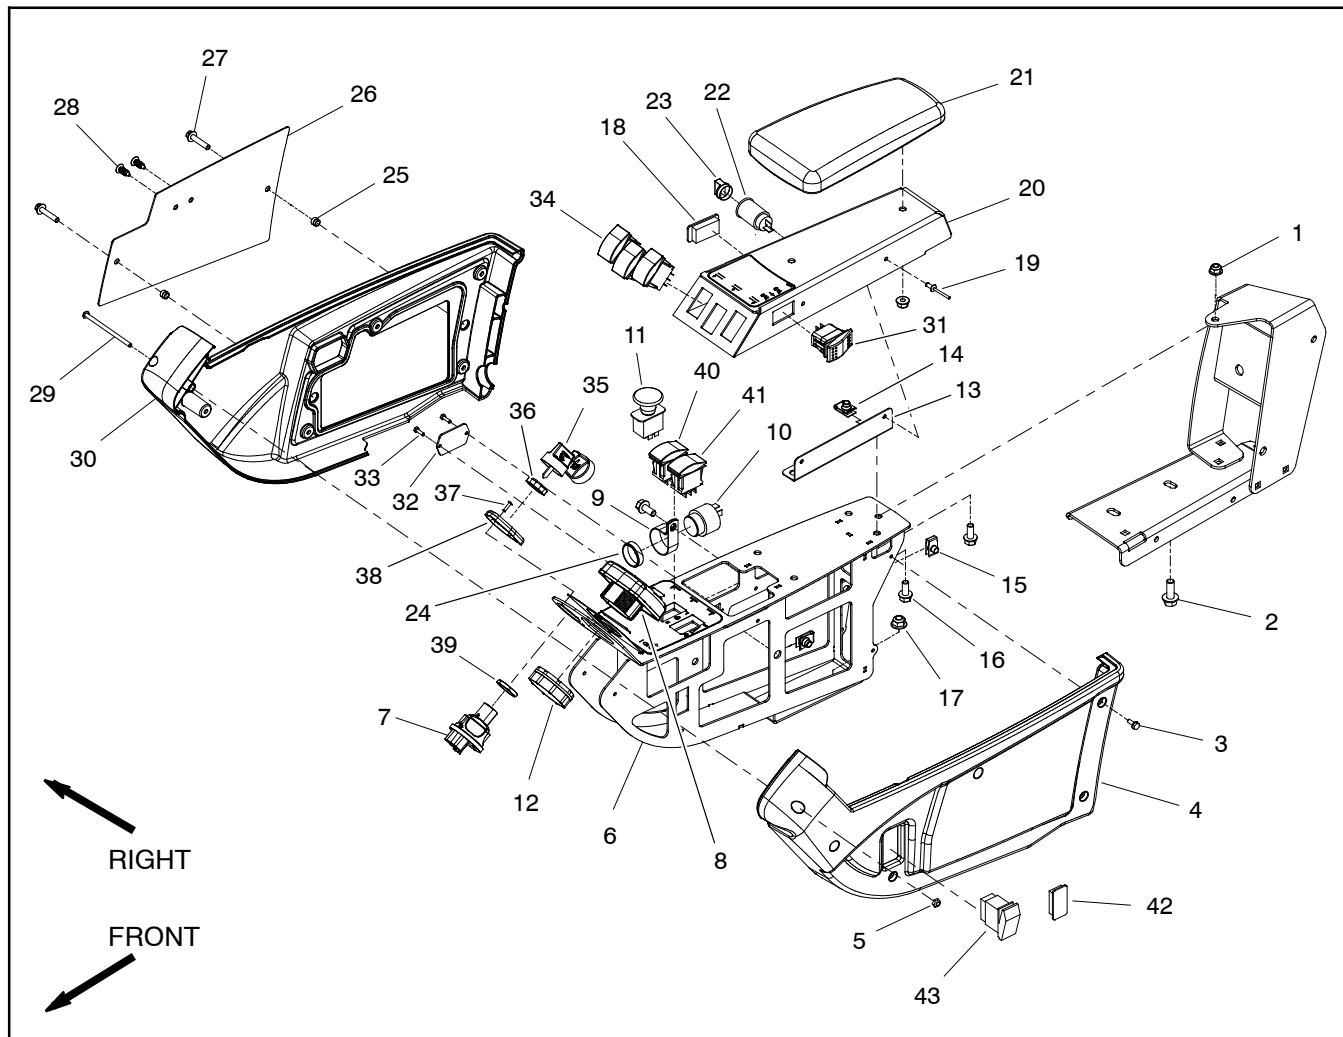

Figure 15
Disassembly (Fig. 15)
2. Remove two (2) flange head screws (item 27) and then cover plate (item 26) from outside of control arm. Locate and retrieve two (2) spacers (item 25).
3. At front of control arm, remove screw (item 29) and lock nut (item 5) that secure control arm covers to each other.
4. Remove five (5) washer head screws (item 3) that secure each cover to control arm panel.
5. Remove control arm covers from machine. As LH cover (item 4) is removed from control arm, unplug wire harness connector from headlight switch if equipped.
6. Remove electrical components from control arm as needed using Figure 15 as a guide.
7. If necessary, remove control arm panel and supports from machine using Figures 15 and 16 as guides.
Assembly (Fig. 15)
1. Install all removed electrical and control arm components using Figure 15 and 16 as guides.
2. Position covers to control arm. As LH cover (item 4) is placed, plug wire harness connector to headlight switch if equipped.
3. Secure each cover to control arm with five (5) washer head screws (item 3). Install screw (item 29) and lock nut (item 5) to secure covers at front of control arm.
4. Position cover plate and spacers to outside of control arm. Secure with two (2) flange head screws.